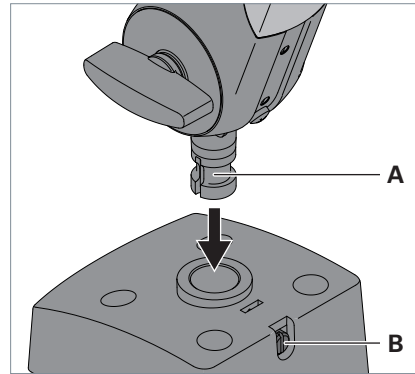

Fig. 2: Mounting the light to the fastening element.
- Insert the stud **A** on the light column into the opening of the fastening element, see Fig. 2.
- Tighten the screw **B** to fix the column, see Fig. 2.